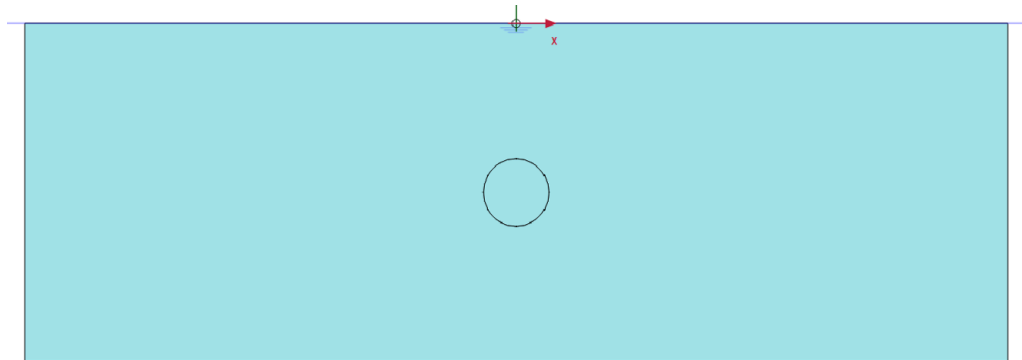

Figure 19–4: Initial phase
- 6 The model for initial phase is shown in Figure 19–4 \(p. 292\).